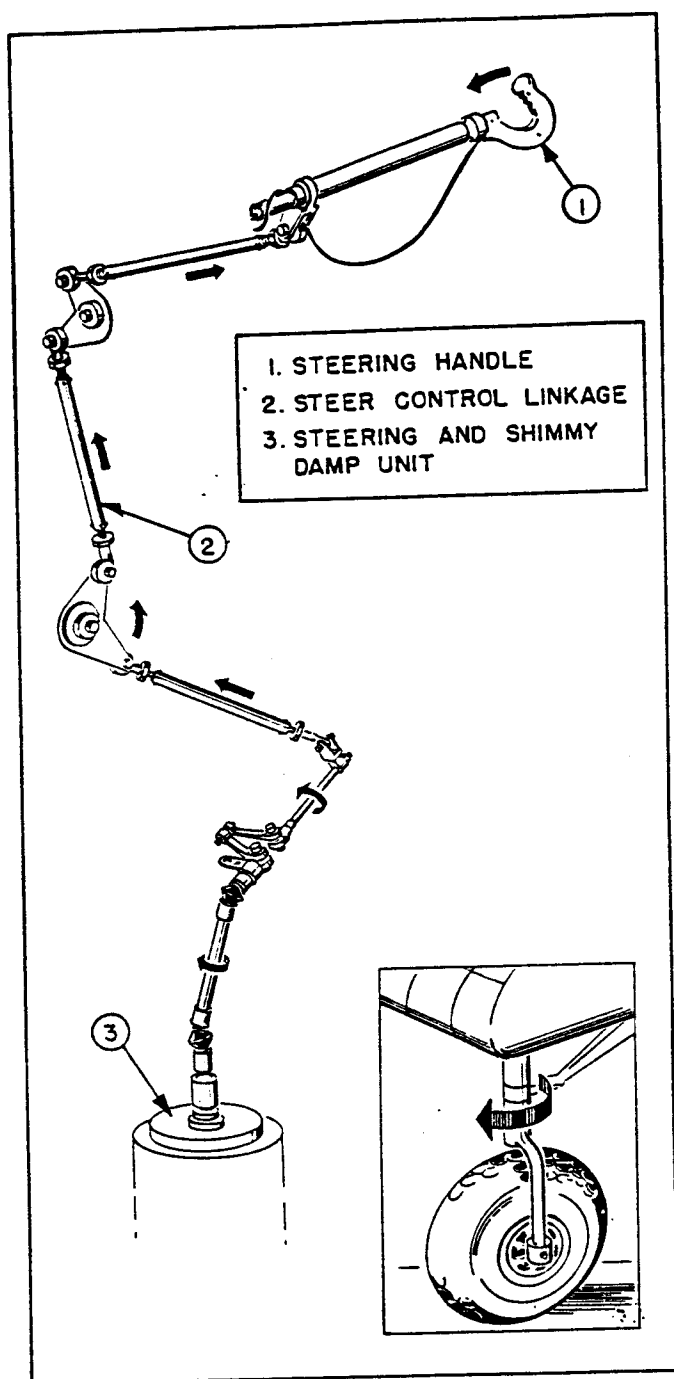

Figure 17. Nose Wheel Steering Mechanism
1. Assemble the nose-gear shock strut using the same procedure as outlined in paragraph 5 c (2) (f) preceding.
2. Replace the shock strut as outlined in paragraph 5 c (2) (g) preceding.
(3) NOSE-GEAR STEERING MECHANISM. (See figures 17 and 18.)
(j) MECHANICAL LINKAGE. (See figure 17.)